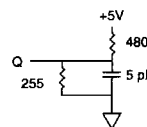

Fig. 2 OUTPUT LOAD EQUIVALENT
- tHZCE and tHZWE are specified with CL = 5 pF as in Fig. 2. Transition is measured ± 500mV typical from steady state voltage, allowing for actual tester RC time constant.
- Chip enable (CE) and write enable (WE) can initiate and terminate a WRITE cycle.